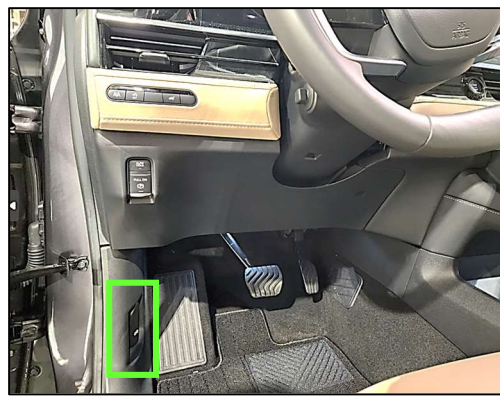

Figure 1
- Pull the hood release shown in Figure 1